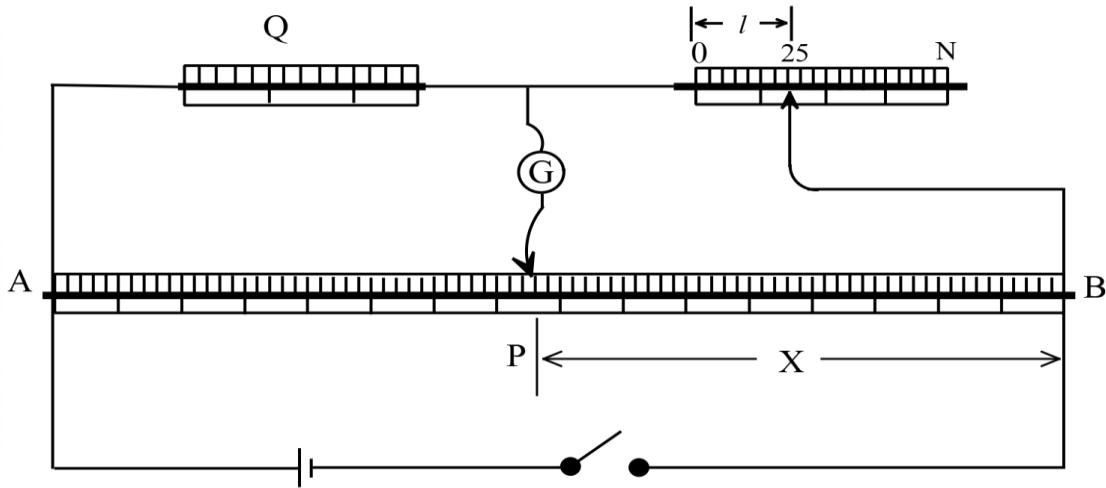

Figure 2
- (e) Without disconnecting the whole circuit, replace the resistor **R** with the wire labelled **Q** and adjust the length of **N** to $l = 25$ cm as shown in the **Figure 2**.